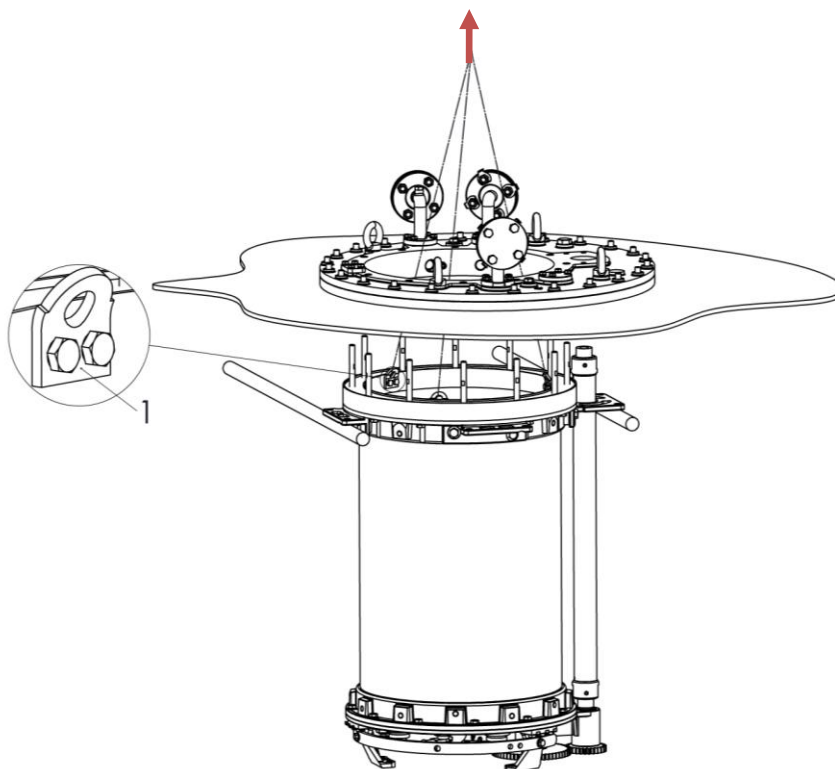

Fig.27 – Lifting the OLTC
6.15. Using the lifting eye bolts (Position 1, Fig. 27), lift the OLTC at a maximum height of 20 mm.